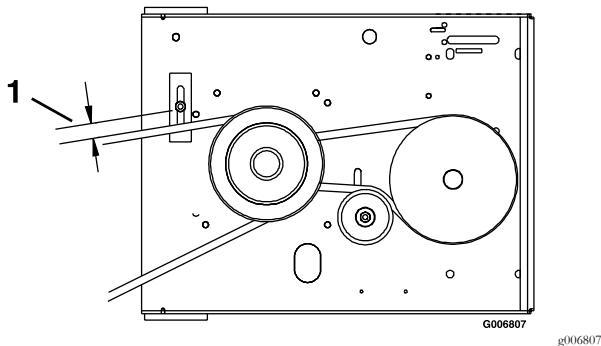
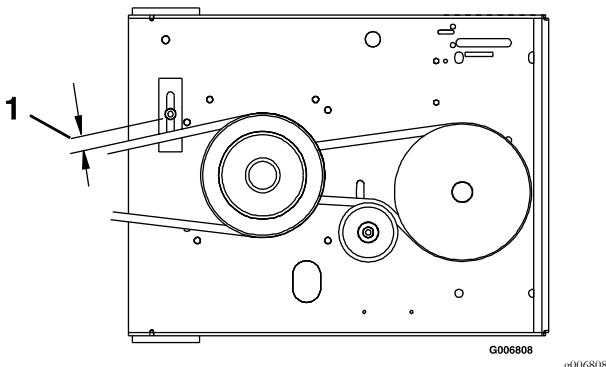

Figure 17
Figure 18
3. Check belt guide under the engine deck for proper adjustment (See Figure 17 and Figure 18). Adjust as necessary.